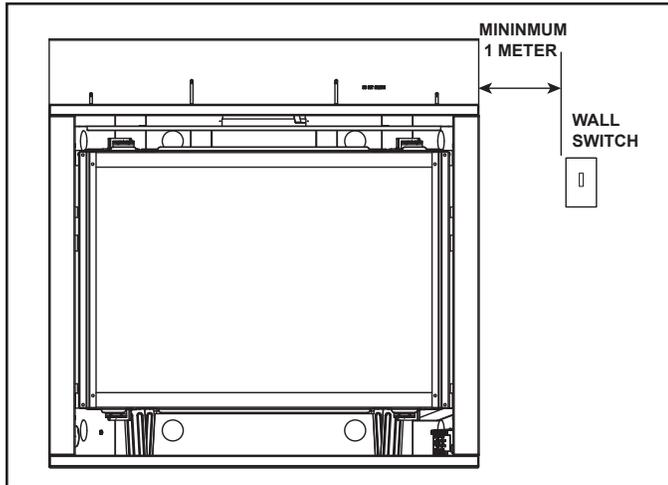

Figure 4.3
2. Wall switch must be located a minimum of 1 meter away from the closest edge of the fireplace appliance. See Figure 4.3.